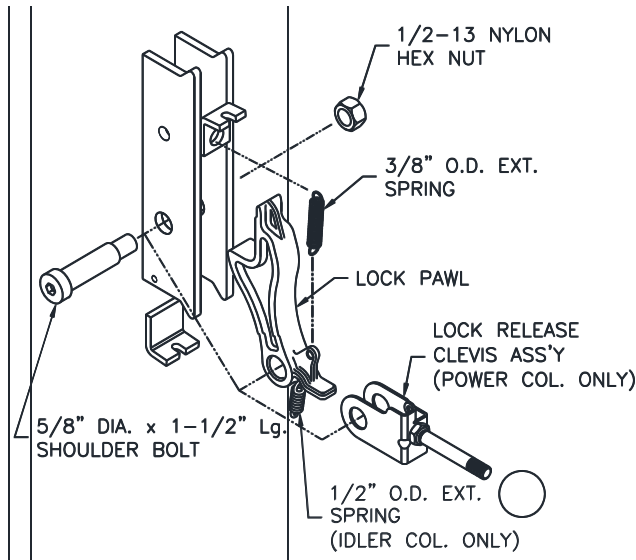

Fig. 6 – Locking Pawl Assembly
- 8) Install power column locking pawl and lock release clevis with 5/8" diameter x 1 1/2" lg shoulder bolt and 1/2"-13 nylon lock nut, **Fig. 6**. Attach 3/8" O.D. extension spring to upper hole in locking pawl and other end to hole in bracket welded to column.